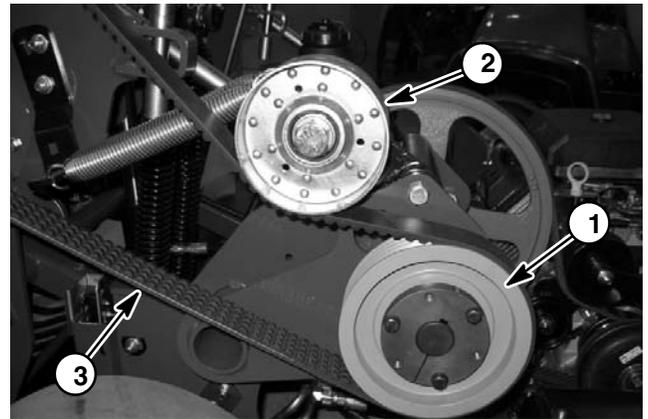
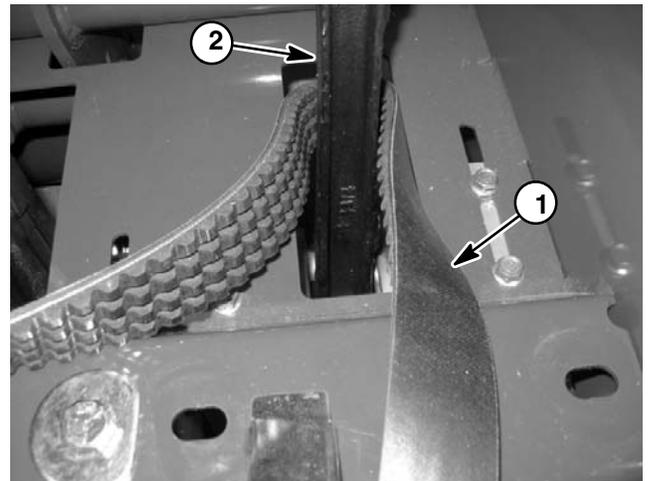

Figure 14
Figure 15
3. Lift idler pulley to release tension on secondary drive belt (Fig. 14). While holding idler away from belt, remove belt from secondary drive pulley. Carefully lower idler pulley.
4. Loosen and remove two (2) lock nuts and hardened D washers that secure rotalink damper for #1 stomper arm (see Rotalink Damper Removal in this section). Lower rotalink damper from coring head frame.
6. Route drive belt down through coring head frame and around lower end of #1 stomper arm to remove secondary drive belt from machine (Fig. 15 and 16).
1. Route secondary drive belt around lower end of #1 stomper arm and up through coring head frame (Fig. 15 and 16).
3. Lift idler pulley to allow installation of belt to secondary drive pulley (Fig. 14). Carefully lower idler pulley to tension drive belt.
4. Raise rotalink damper for #1 stomper arm to coring head frame. Make sure that damper standoff and top spacer are on damper studs. Secure damper to coring head frame with two (2) hardened D washers and lock nuts (see Rotalink Damper Installation in this section).